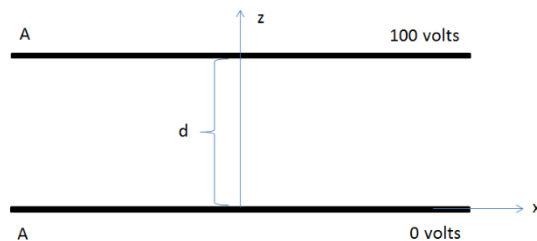
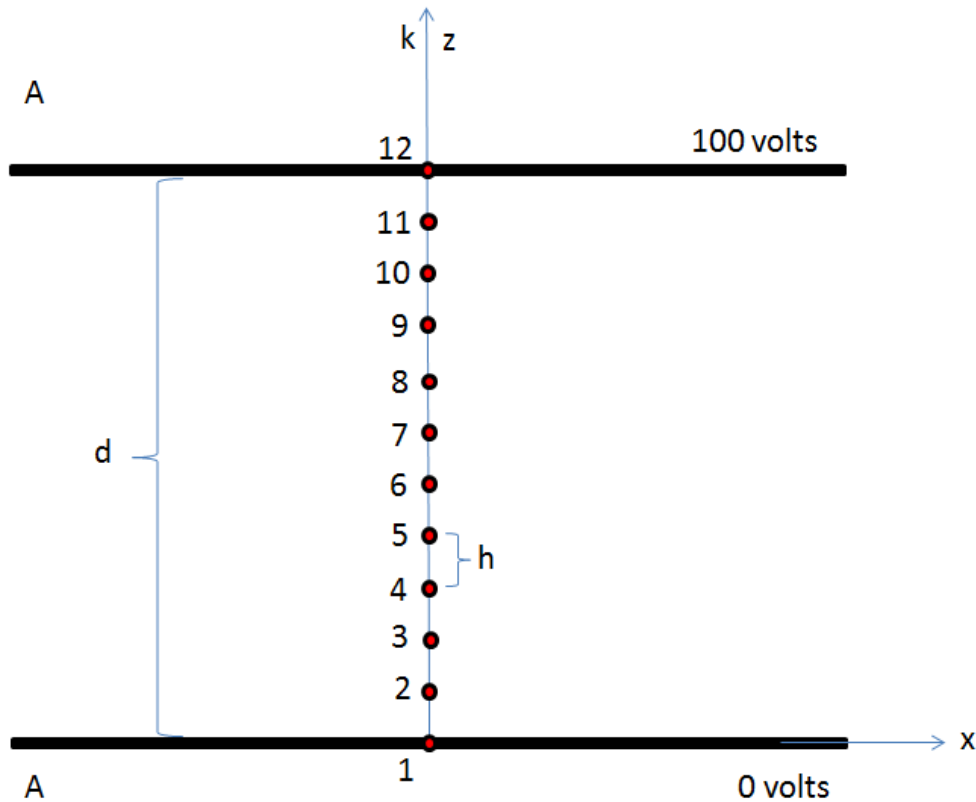

Figure Pre-1: Parallel plate capacitor geometry
Figure Pre-3: Parallel plate capacitor geometry for numerical technique
Consider the parallel plate capacitor shown in figure Pre-1. The lower plate is at 0 volts, and resides in the  $(x, y)$  plane. The upper plate is at 100 volts, also resides in the  $(x, y)$  plane and intersects the  $z$  axis a distance  $d$  from the origin. We will treat  $d$  (capacitor plate separation) as small, such that we may approximate the capacitor plates as infinite in extent in the  $(x, y)$  planes. As a result the potential function is independent of the  $x$  and  $y$  coordinates. This statement has to do with the translational symmetry that is present with regards to the  $x$  and  $y$  coordinates. As you move about in the  $(x, y)$  plane KEEPING  $z$  CONSTANT the environment always looks the same. Thus in equation (P-4) the derivatives with respect to  $x$  and  $y$  are zero as (for this geometry) the potential is independent of  $x$  and  $y$ . The potential does vary in moving along the  $z$  direction. The potential is 0 volts at  $z = 0$  and is 100 volts at  $z = d$ .
**Question Pre-1.1:** Solve the differential equation (P-4) for the parallel plate capacitor of figure Pre-1. It is a second order differential equation so the general solution will have two constants. Determine these constants by making use of the known voltage values at  $z = 0$  and  $z = d$ . Take  $d = 1$  mm. Plot several equipotential lines and from these draw in the electric field lines. What is the numerical value (magnitude and direction) of the electric field? **1 mark**
At this time it is a good idea to review the course lecture slides related to the numerical solution to Poisson's and Laplace's equation. A review of the numerical technique is presented here for a geometry which results in a 1-D variation in the potential function. The parallel plate capacitor geometry shown in figure Pre-1 is such a geometry. The potential varies only the  $z$  direction and is constant in the  $(x, y)$  plane. Now consider the parallel plate capacitor geometry redrawn in figure Pre-3. The  $z$  axis between the capacitor plates has been segmented and each point the  $z$  axis is assigned an index ( $i$ ). The spacing between grid points is uniform and equal to  $h$ . The capacitor plate separation is  $d$ .
- Divide the space into an equal number of grid points. Make certain that grid points are assigned to surfaces that are at fixed voltages (like the plates of the capacitors, see figure Pre-3)
**Question Pre-2.1:** For the parallel plate capacitor given in figure Pre-3 use the numerical technique to obtain the voltages at the grid points for the first 5 iterations (start grid points at 50 V). Take  $d = 1$  mm. **1 mark**